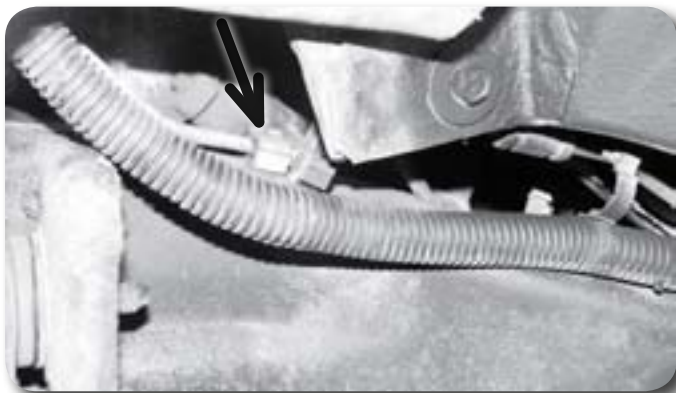

Figure 19
29. Remove the brake line from the plastic retaining clip on the driver's side frame rail Figure 19.